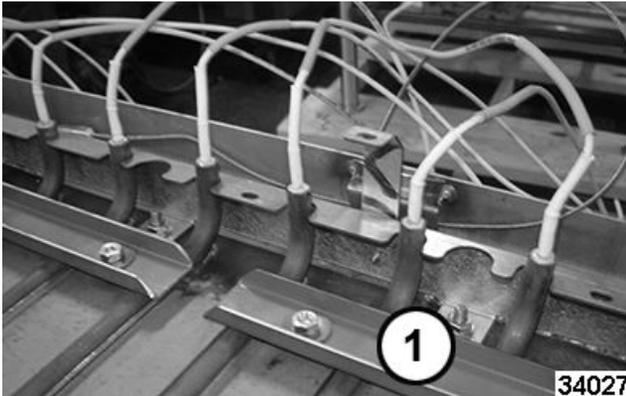

Fig. 48
- Remove bracket (1, Fig. 48) for heating element to be serviced.